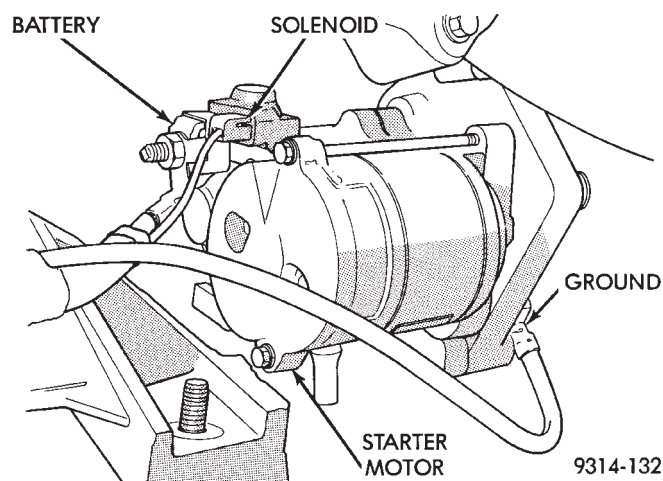
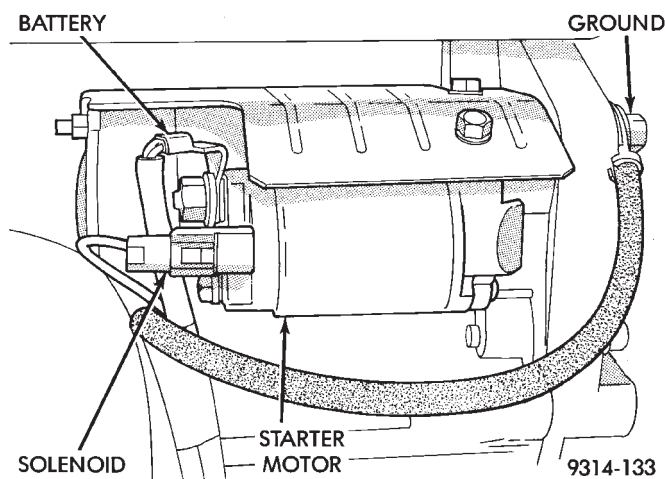

Fig. 20 Starter Motor—3.3L Engine
Fig. 21 Starter Motor—3.5L Engine
(21) Check for loose or corroded electrical connections at the starter motor (Fig. 20 or Fig. 21).